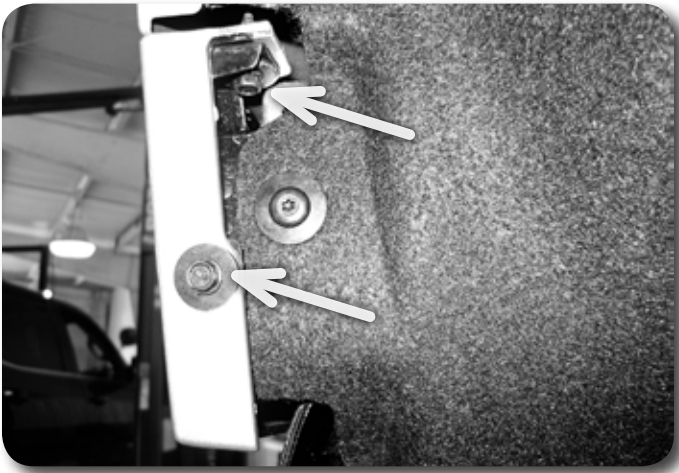

Figure 2
- Using a 7mm socket, remove the two bolts attaching the lower grill valence to the inner fender well on both sides. Figure 2